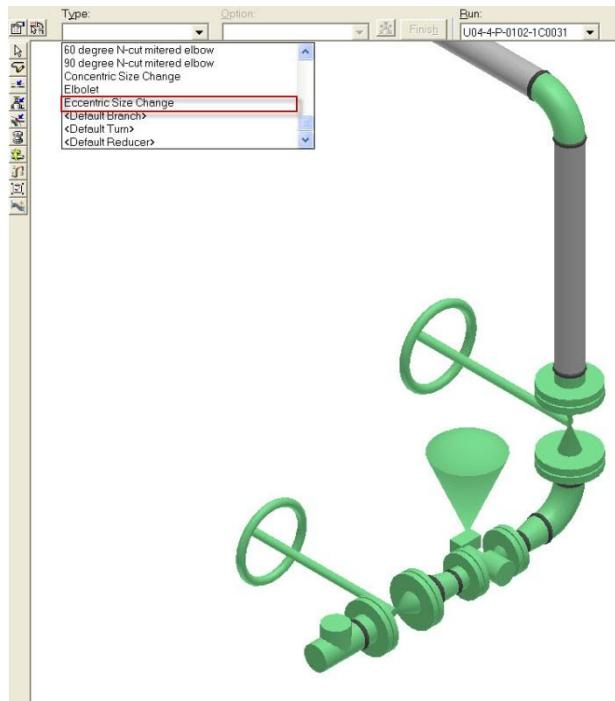

Figure 3.88: Eccentric Size Change Option in the Type Drop-Down List
37. Select the **Eccentric Size Change** option in the **Type** drop-down list on the **Insert Component** ribbon, as shown in Figure 3.88.